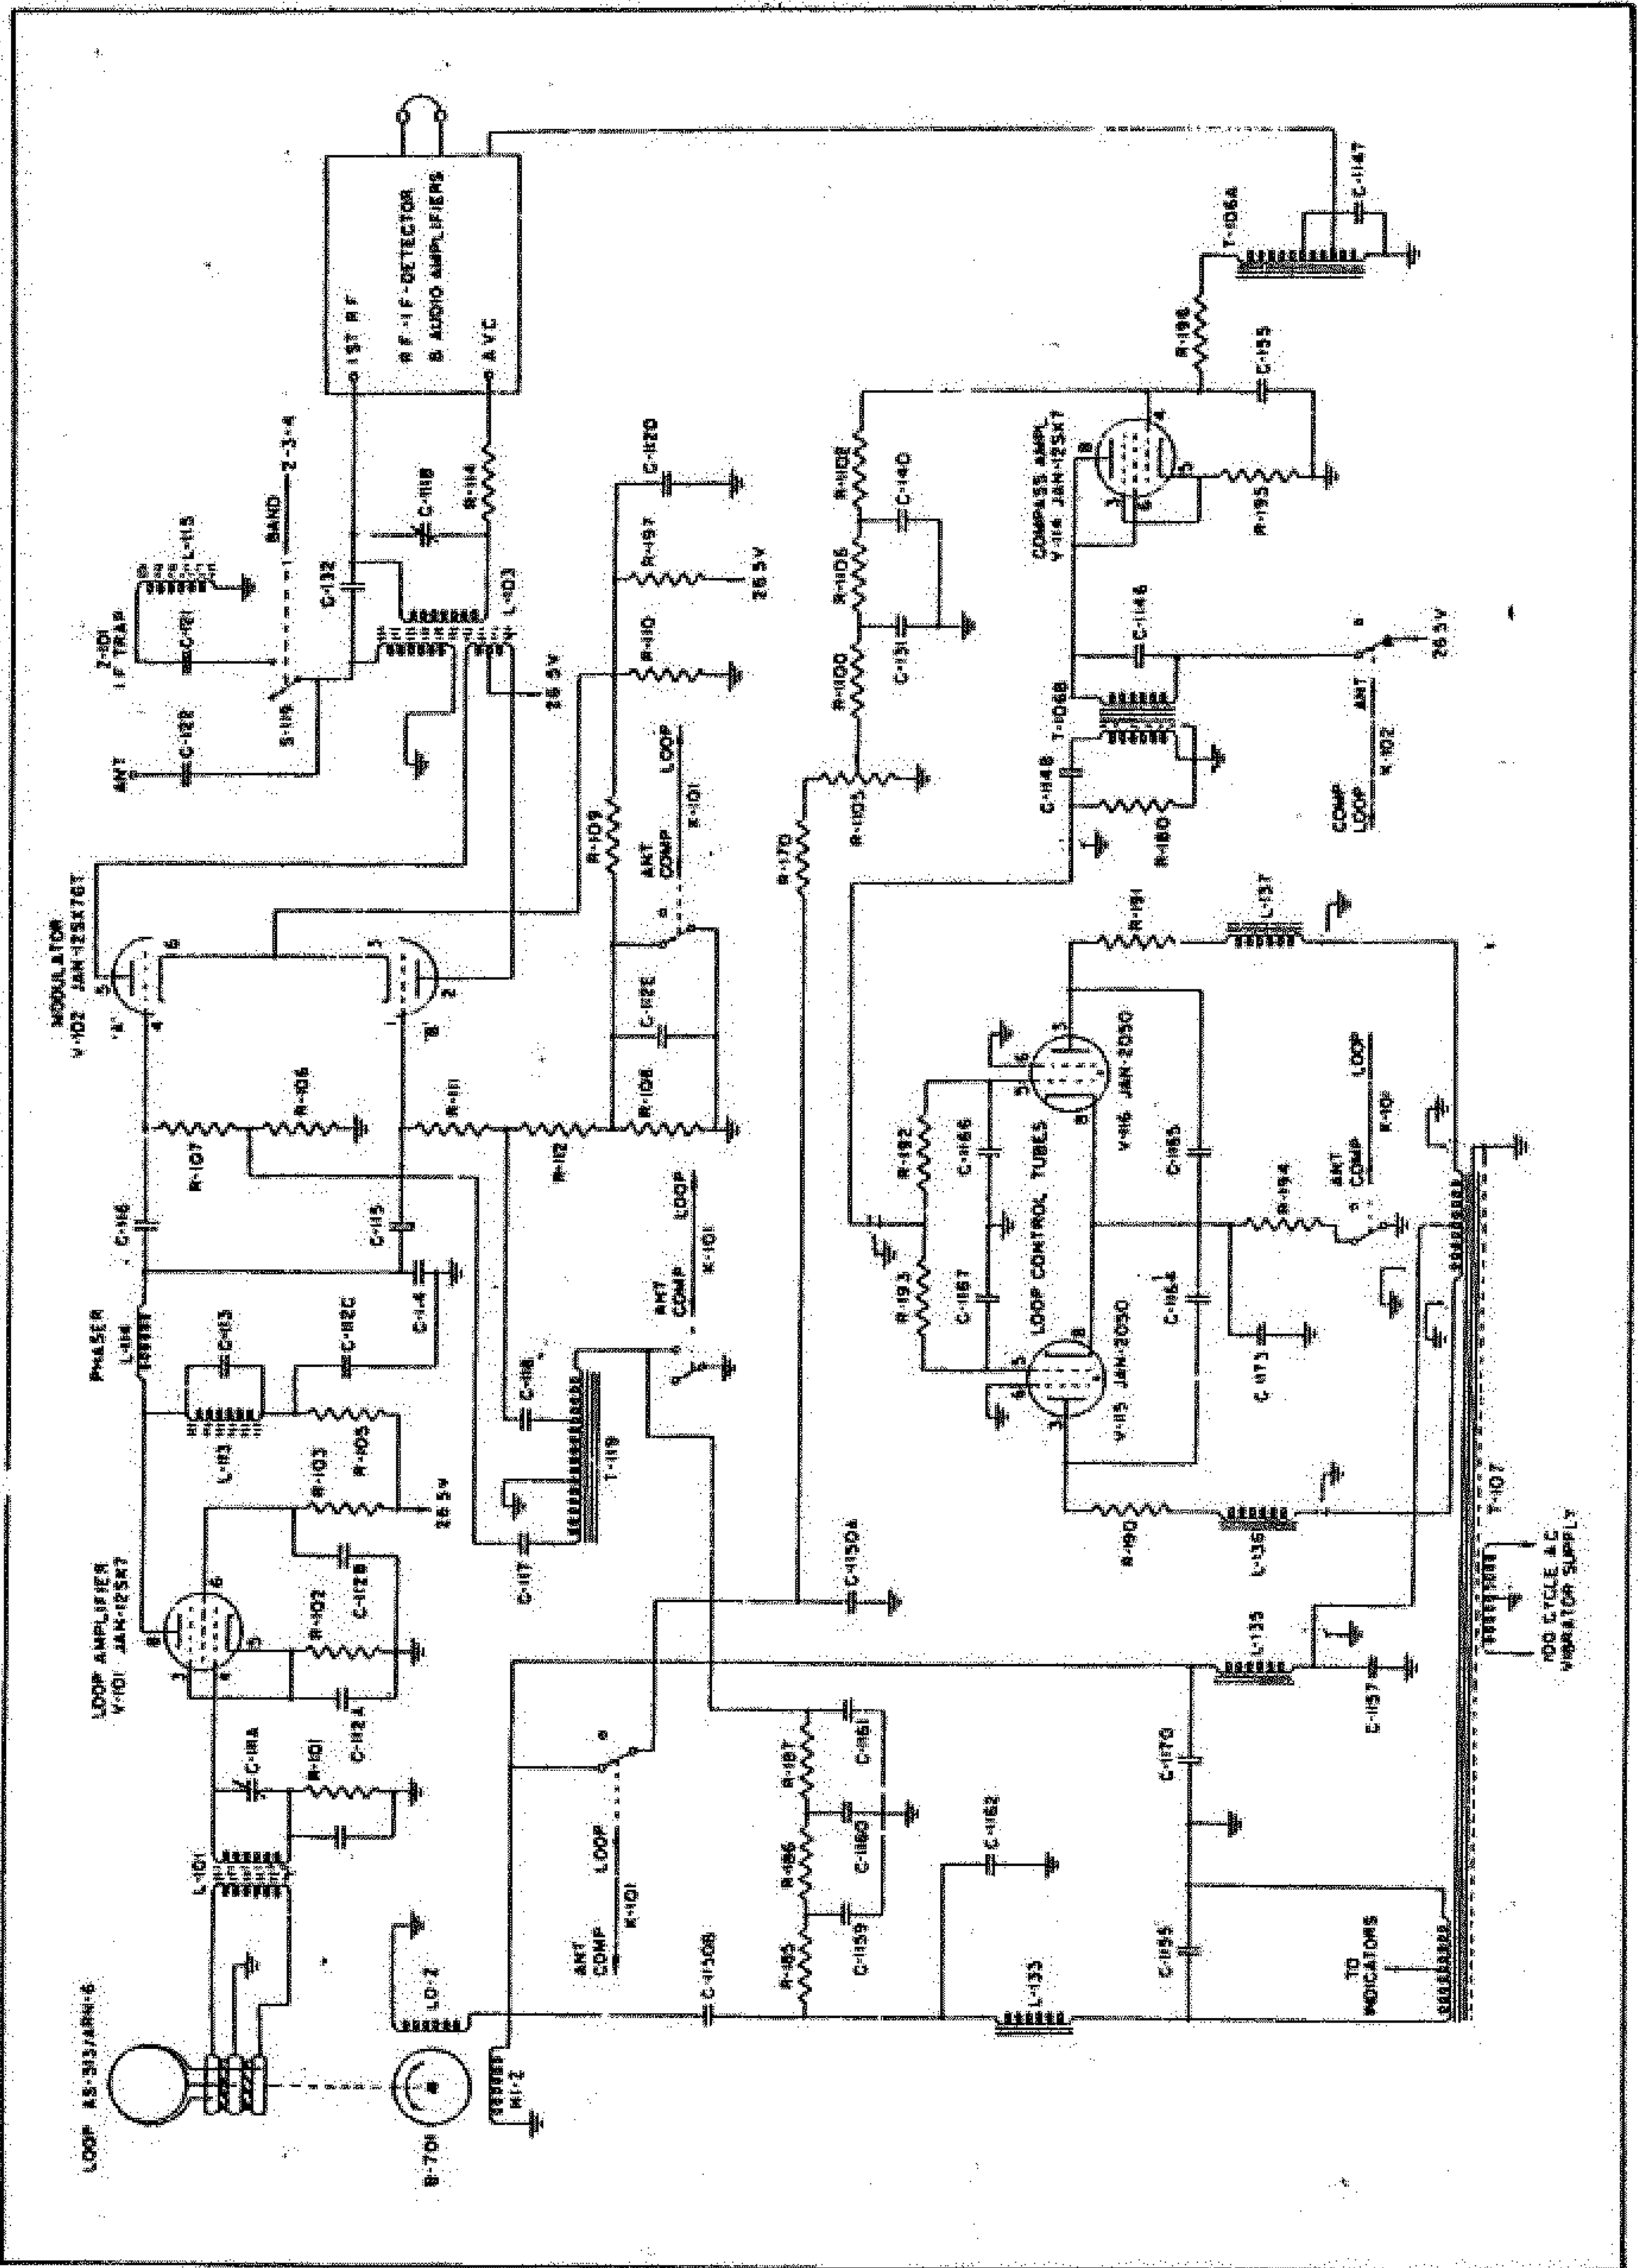

Figure 4-5. Functional Diagram—Compass and Loop Control Circuits of Radio Compass Unit R-101/ARN-6
(3) ANTENNA OPERATION. (See figures 4-5, 4-6, 4-7, and 4-8.)
(4) LOOP OPERATION. (See figures 4-5, 4-6, 4-7, and 4-8).
**a. LOOP CONTROL AND INDICATOR CIRCUITS.** (See figures 4-5, 4-6, and 4-9.)
(1) Since the receiver, Radio Compass Unit R-101/ARN-6 or R-101/ARN-6, is primarily designed for the automatic control of the loop, this function is fully described in paragraph 2.b., this section. Figure 4-5 or 4-6 is recommended for study, in preference to the complete schematic, since all bandswitching is omitted and the ordinary RF and IF circuits indicated only as a block.
(2) When using loop reception instead of automatic compass, the thyatron circuit controlling the
(3) In order to provide a suitable control for "hunting" of the loop—that is, small oscillations about its null point when operating as an automatic radio compass—a negative feedback system is provided. Refer again to figure 4-5. The "Hi-Z" winding of B-701 is the winding controlled by the thyatrons. The sig-